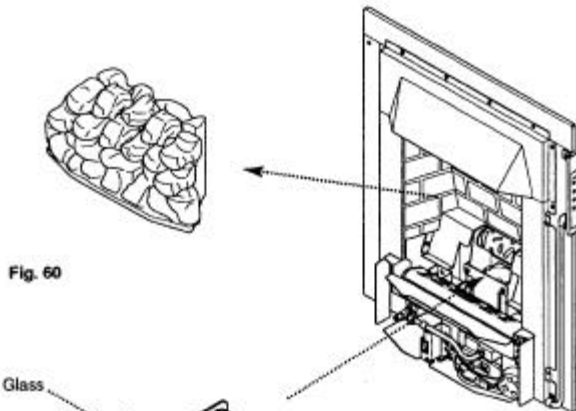

Fig. 60
1. Remove the coal bed (Fig. 60).